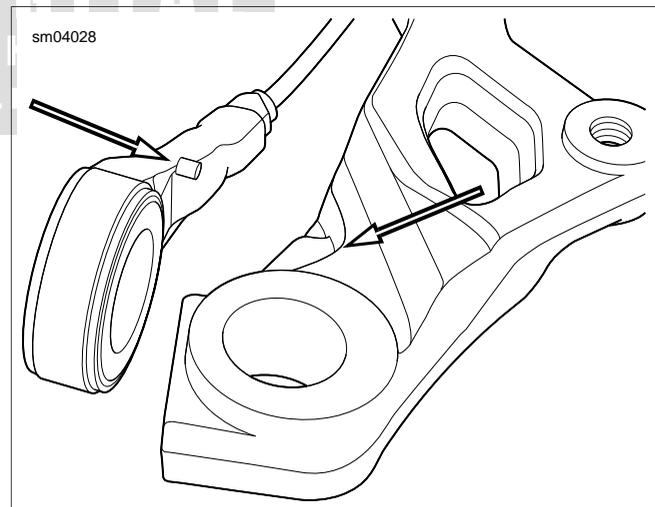

Figure C-4. Rear Wheel Speed Sensor Index Pin
2. Install rear wheel. See 2.4 REAR WHEEL. Be sure to rotate rear wheel speed sensor until index pin makes contact with caliper bracket at point shown in Figure C-4.